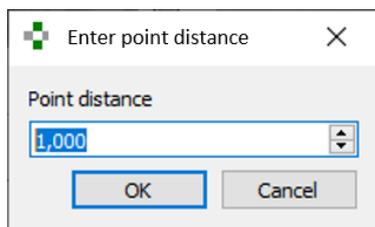

Figure 29: Enter point distance
7. Enter the distance between the *First* and the *Second Point* in the “Enter Point Distance” dialog. See Figure 29.